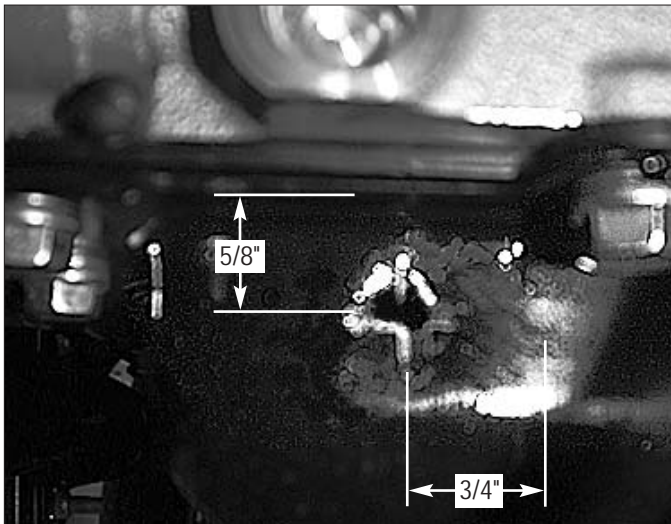

Fig. 3-a
- C. Mark the oil pan 5/8" down from the oil pan mounting rail on the driver's side of the engine. Measure forward 3/4" from the first bolt on the side of the oil pan. (See Fig. 3-a.)